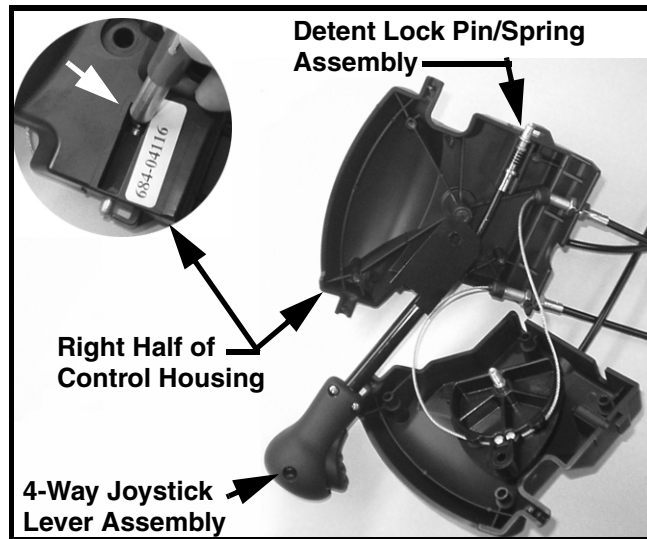

FIGURE 7
17. With the joystick control assembly positioned as shown in Figure 6, carefully separate the left half of the control housing from the right half making sure that the bolt and the chute deflector pulley stay with the left housing half. The joystick lever will come off the center shoulder bolt and remain attached to the right half because the detent lock pin/spring assembly is snapped into the right half of the housing. See Figure 7.
18. With the halves separated, use a flat blade screwdriver through the opening on the outside of the right half to push out the cable end ferrule of the detent lock pin/spring assembly from the right half of the control housing, see Figure 7 inset.